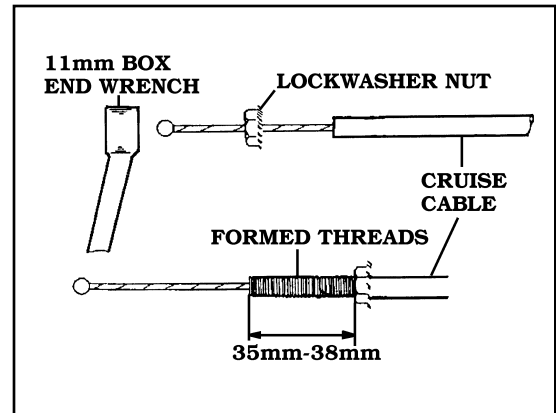

FIGURE 20
1. BEFORE USING THE **SNAP-IN ADAPTER**, REMOVE THE ADJUSTABLE SLEEVE FROM THE **CRUISE CABLE**. TO USE THE **SNAP-IN ADAPTER**, IT WILL BE NECESSARY TO FORM THREADS ON THE END OF THE **CRUISE CABLE**. THIS IS EASILY ACCOMPLISHED BY PLACING THE **LOCKWASHER NUT** ON THE END OF THE **CRUISE CABLE** WITH YOUR FINGERS. THEN USING AN **11MM** BOX END WRENCH AND TURNING CLOCKWISE UNTIL THE DESIRED AMOUNT OF THREADS HAVE BEEN FORMED. **FIGURE 20**
3. BEFORE USING THE **LOCKWASHER NUT**, REMOVE THE ADJUSTABLE SLEEVE FROM THE **CRUISE CABLE**. THEN USE THE **LOCKWASHER NUT** TO FORM THREADS ON THE END OF THE **CRUISE CABLE**. THIS IS EASILY ACCOMPLISHED BY PLACING THE **LOCKWASHER NUT** ON THE END OF THE **CRUISE CABLE** WITH YOUR FINGERS. THEN USE AN **11MM** BOX END WRENCH AND TURN CLOCKWISE UNTIL THE DESIRED AMOUNT OF THREADS HAVE BEEN FORMED. **FIGURE 20, PAGE 14**
1. BEFORE USING THE **FLAG NUT**, IT WILL BE NECESSARY TO FORM THREADS ON THE END OF THE **CRUISE CABLE**. THIS IS EASILY ACCOMPLISHED BY PLACING THE **LOCKWASHER NUT** ON THE END OF THE **CRUISE CABLE** WITH YOUR FINGERS. THEN USE AN **11MM** BOX END WRENCH AND TURN CLOCKWISE UNTIL THE DESIRED AMOUNT OF THREADS HAVE BEEN FORMED. **FIGURE 20, PAGE 14**